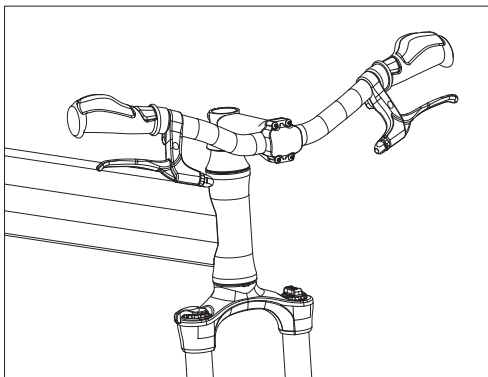
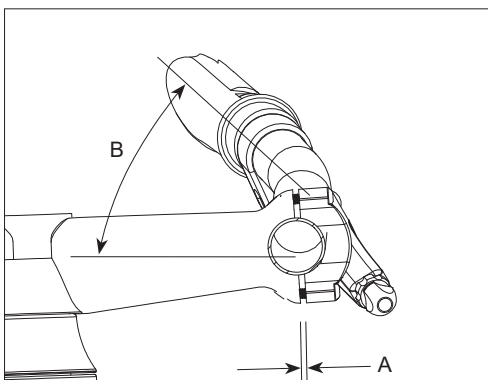

Fig. 14: Tighten screws.
Fig. 15: Set at comfortable angle.
- Tighten with the provided hex wrench (Fig. 14) to proper torque (page 36). Make sure that the gap between the stem is roughly the same on the top and bottom (Fig. 15, a), and the handlebars are at a comfortable riding angle (Fig. 15, b).